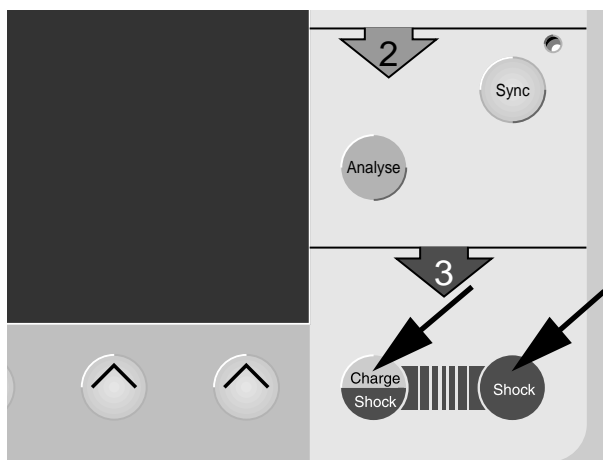

Figure 4-12. Buttons to initiate defibrillator charging and to trigger the shock
- Defibrillate the patient as described for defibrillation with paddles (page 19). Be sure to charge the defibrillator with  and to deliver the shock by simultaneously pressing buttons  **and**  (Figure 4-12).